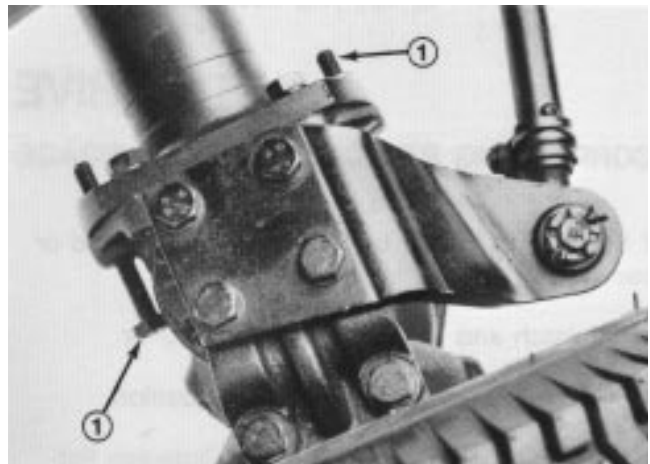

Figure 7
2. Remove cotter pin and nut securing one tie rod ball joint to mounting bracket on axle and disconnect ball joint from axle (Fig. 7).
Steering Stop Adjustment (Fig. 7)
1. Thread bolt in out until 0.090 in. clearance is attained (Fig. 7)